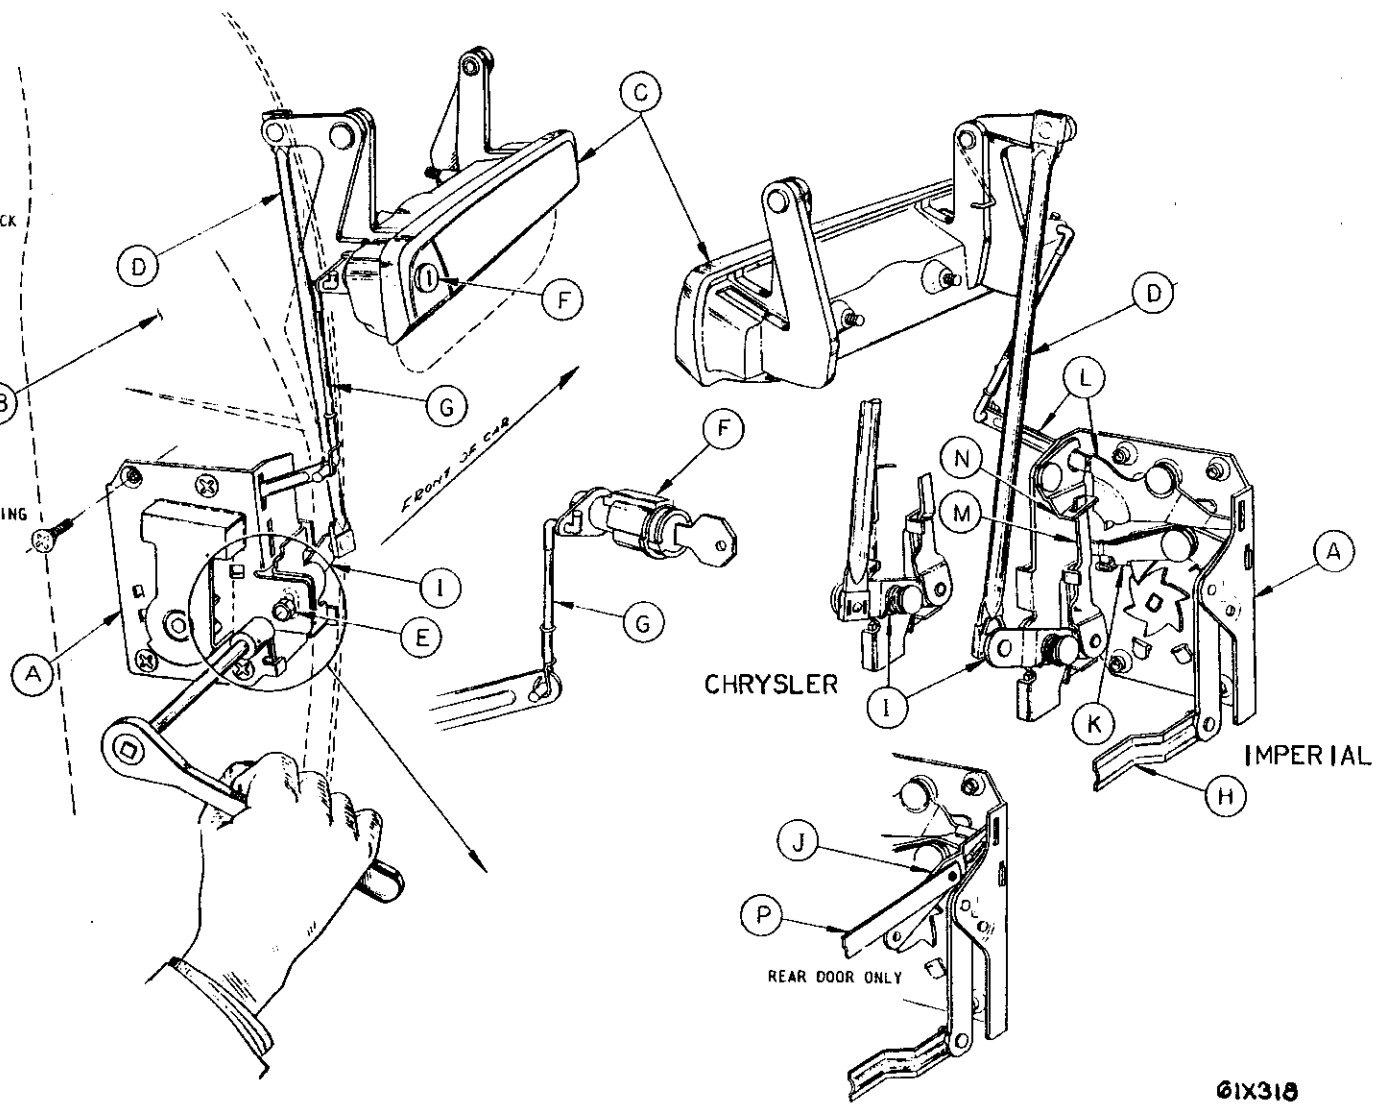

Fig. 70—Manual Door Lock and Linkage
### OUTSIDE DOOR HANDLE AND KEY CYLINDER (Fig. 70)
Raise the glass to the top position and remove the lock and remote control screws (rear door—also take the nut off the locking lever assembly) and remove the assemblies from the panel. Rotate the bottom of the lock forward to disconnect the remote and lock control (P) Fig. 70) links. Take the lock out of the door. On Imperial front doors, it is easier to get the remote control disconnected from the lock if the glass rear lower guide channel bottom attaching screw nut is removed and the channel pushed away from the inside panel so that the lock remote control link can be freed from back of the channel.